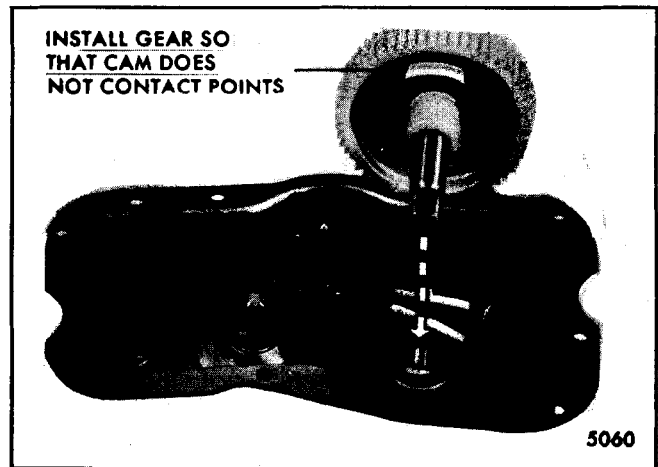

Fig. 2-13-Gear Installation
3. Install output gear and shaft assembly with cam at least 90 degrees away from park switch (Fig. 2-13).